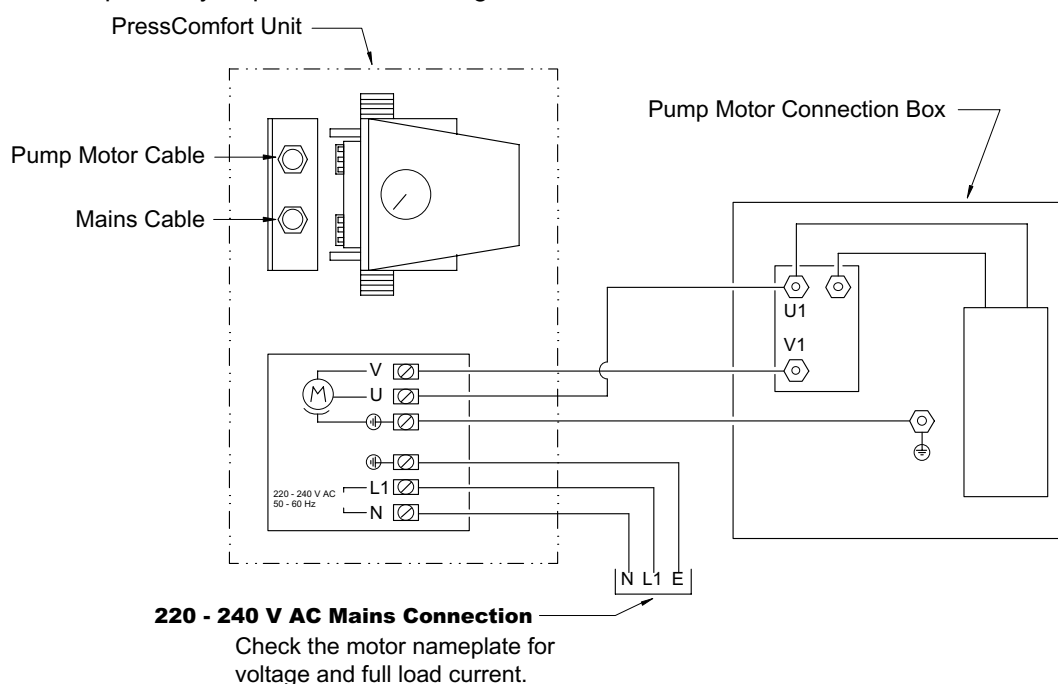

Fig 1.2
1.3.4.2 Connect incoming switch fused electrical mains supply to identified terminals in the Presscomfort controller (see fig. 1.2). Ensure voltages and frequency indicated on the motor nameplates and wiring diagrams correspond with supply mains data and that the supply fuse ratings are correct for the total current rating of the equipment Refer to wiring diagram supplied with the unit or contact AquaTech Pressmain.